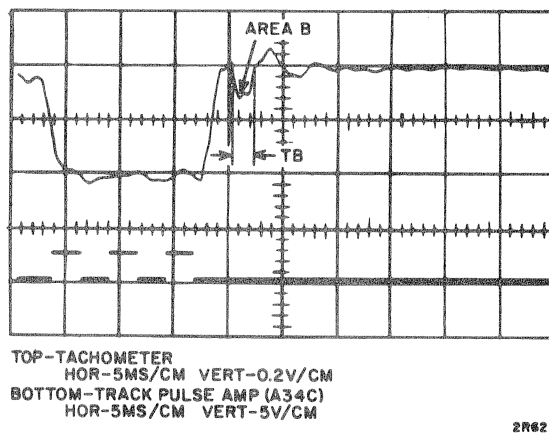

Figure 6-18. Tachometer Output (Reverse Seek)
13. The reverse stop pulse delay is the time between the trailing edge of the last track pulse and the leading edge of the stop pulse during a Reverse Seek. This delay times the dropping of the detent pawl with respect to the detent gear position. Figure 6-18 shows the tachometer output trace for a properly adjusted delay (area B is the rebound caused by the pawl/gear engagement). The pawl should not engage the gear before zero
- a. Connect the oscilloscope external trigger to test point C of K214 Reverse FF (C28). While the actuator performs a 3-track seek centering on Track 100, compare the trace to Figure 6-18.
- b. Adjust Y330 (D34) to make the trace approximate Figure 6-18, if required.